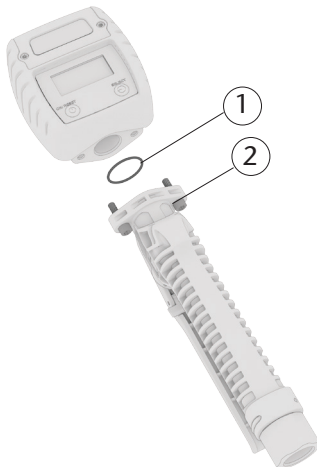

Fig. 2
- To connect the gun to the network, keep fixed the gun body and the hose end while rotating the swivel free end to achieve the desired torque. Tightness is achieved through the application of sealant or PTFE tape (Fig. 2).
- A meter unit can be attached to the gun by means of the gun flange. Employ a 24 x 2 mm size o-ring (1) and two M5 x 14 screws (2) for mounting.